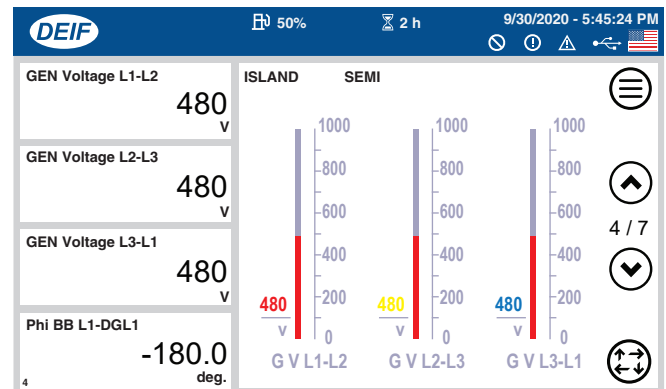

Figure 63. Output Voltage Status Screen (4 of 7)
- Verify that the **Output Voltage Status screen (4 of 7)** is displayed. Observe the **L1, L2 and L3 voltage readings**. See Figure 63.